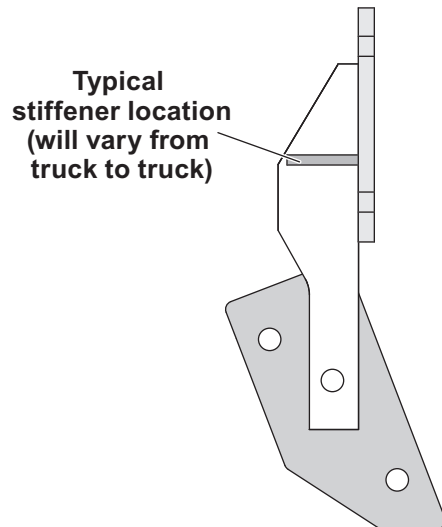

Figure 8
- e. Tack weld in place. Stiffen, as necessary, by tacking on gussets fabricated from any remaining stock (see Figure 8).